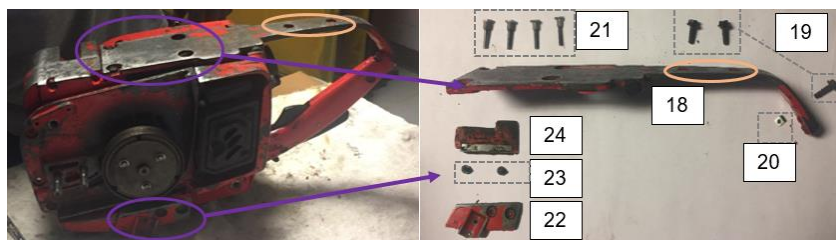

Figure 13: Lower Handle Removal
Step 8: Rotating the main assembly to the bottom, use a 1 1/2in socket wrench to unscrew four Lower Handle Bolts-B (21) from the main assembly. Then use a 1in wrench to unscrew three Lower Handle Bolts-A (19). Next, manually unscrew the Lower Handle Nut (20) and remove the Lower Handle (18). (Figure 13)
Step 9: Use a 1in wrench to unscrew two Handle Mounting Bracket Bolts (23). Then manually remove the Handle Mounting Bracket (22) and the Dust Cover (24). (Figure 13)